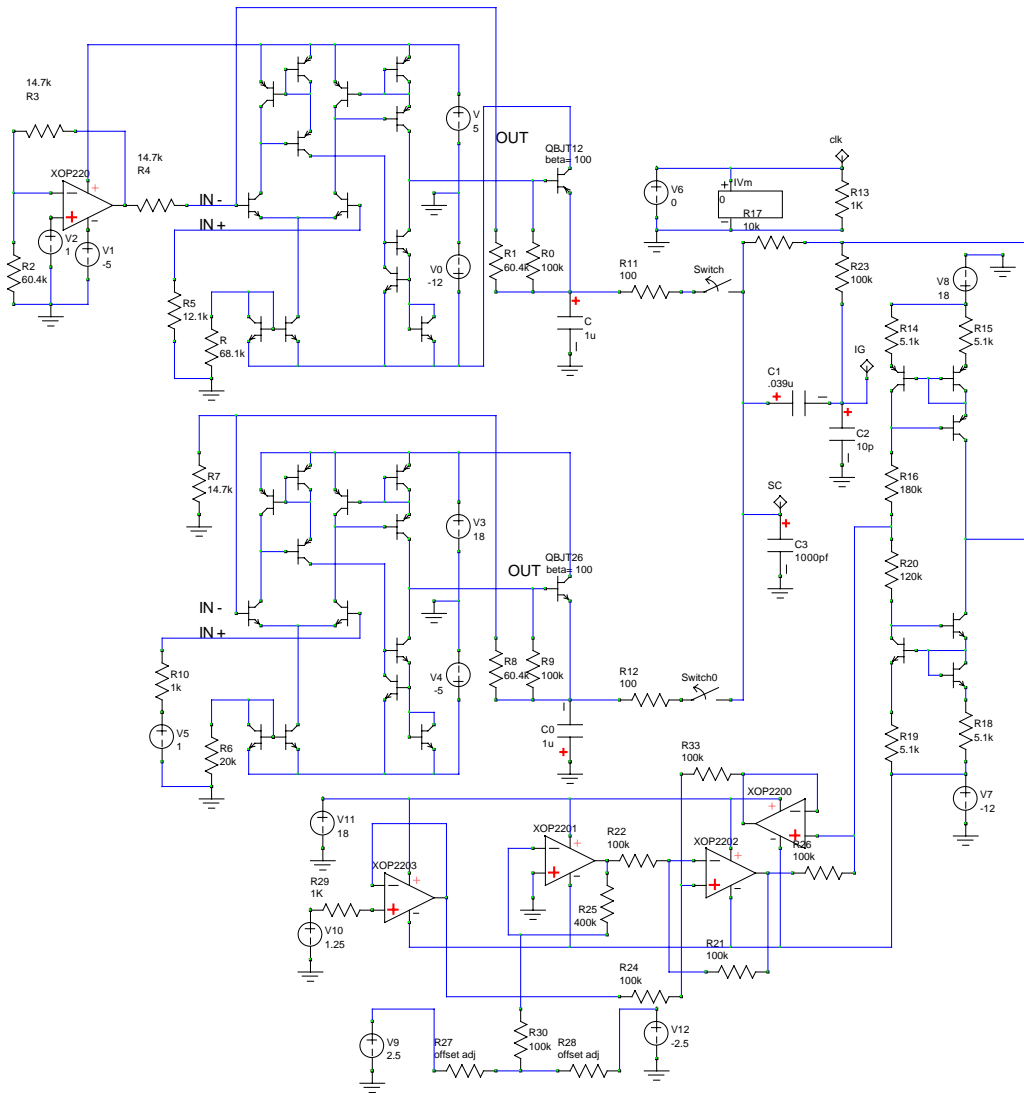

Figure 1: Input gate driver circuit from Ed Boughan's email of 24 May; desirable changes to this circuit are discussed in the text
- We agreed that the input gate driver circuit (see Figure 1) was acceptable with the following stipulations: